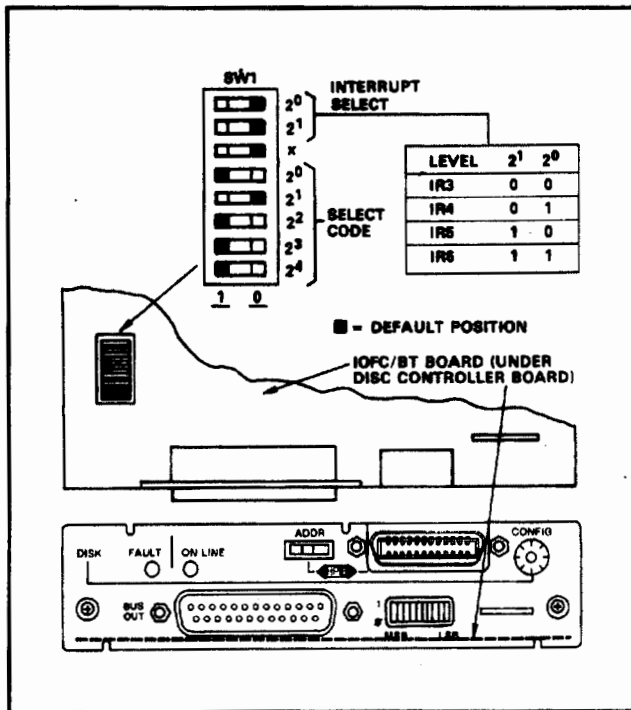

Figure 2-5. IOFC/BT Board, Configuration Switches
IOFC/BT Board Switches. The board has two configuration switches (see Figure 2-5) that are explained here. The mainframe address does not have a switch but is jumper wired for 0. In the unusual case of a system that cannot operate with the HP 6954A at 0, the frame address can be changed via the address jumpers (refer to the *HP 6954A/44A Assembly Level Service Manual*).
- b. Select code 29 is reserved for the Multiprogrammer interface. If you are installing a card that must use code 29, then you must change the select code on the IOFC/BT Board (see Figure 2-5).